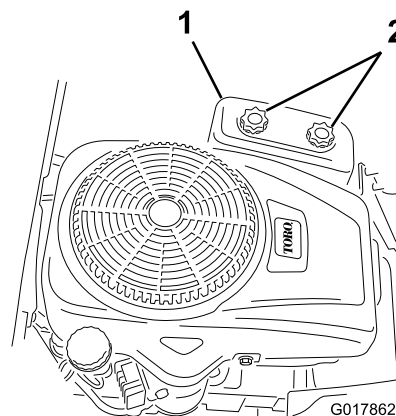

Figure 27
- Remove the air cleaner cover by unscrewing the 2 knobs (Figure 27).
3. Install the air cleaner cover and tighten the two knobs (Figure 27).